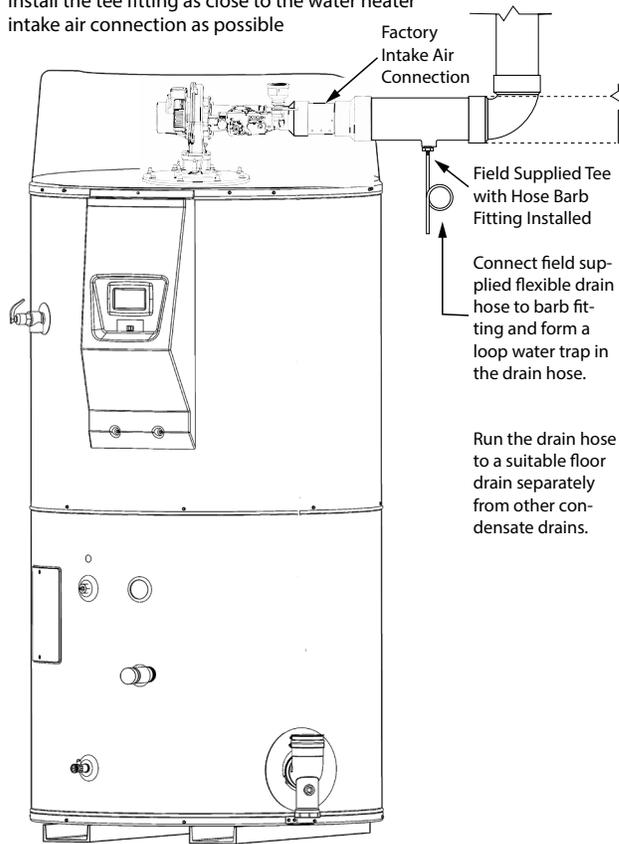

Figure 23. Intake Air Condensate Tee Installation
- A field-supplied condensate Tee fitting and drain hose shall be installed in the intake air piping near the water heater in colder climates with heavy snow accumulations and in areas that regularly experience high humidity. The drain hose should be routed to an adequate floor drain separate from any other condensate drains. See **Figure 23** (page 35).
Installations with any of these conditions are required to provide a moisture drain with a trap that flows to a waste drain. See **Figure 23**. A horizontal section of the air inlet pipe, near the heater should include a tee and a hose barb fitting to drain the water. The tee should be as close to the heater as is practical. The drain tubing in any installation should have a loop trap and flow to an appropriate waste drain. The air intake drain line must be entirely separate from the exhaust vent outlet condensate line.